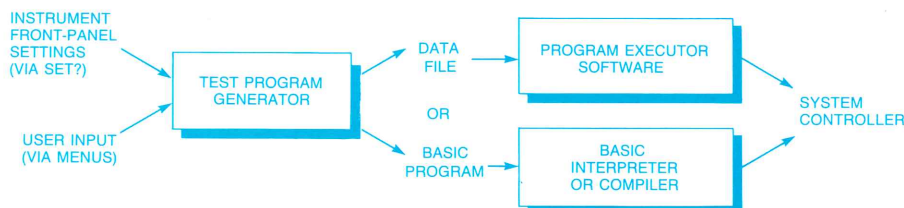

Figure 2. Flow diagram showing the typical sequence for acquiring and implementing a test with a test program generator.
3. Test program generators. An even simpler approach involves using a program that writes programs — a test program generator (TPG). The user describes the tests to be performed using menus and front-panel instrument settings. The test program generator reads the front-panel settings from the instrument using a SET? query and compiles the user input into either a BASIC program or a series of data structures. The results can either be executed directly (if a BASIC program is produced) or, if the output is a file of data structures, it can be "played back" through an execute routine in the test program generator software (see Figure 2).